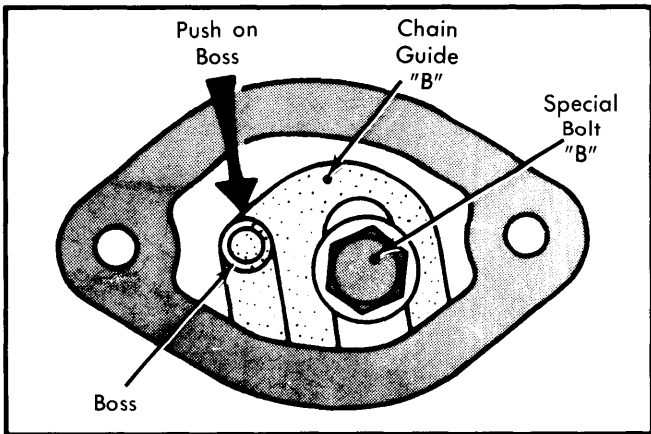

Fig. 11 Silent Shaft Chain Adjustment with Engine Installed
9) Remove cover from access hole in chain case cover. Loosen special bolt "B". See Fig. 11. Apply finger pressure only (no screwdrivers or punches) on boss in direction indicated. Tighten special bolt "B" to 15 ft. lbs. Complete reassembly by reversing disassembly procedure.